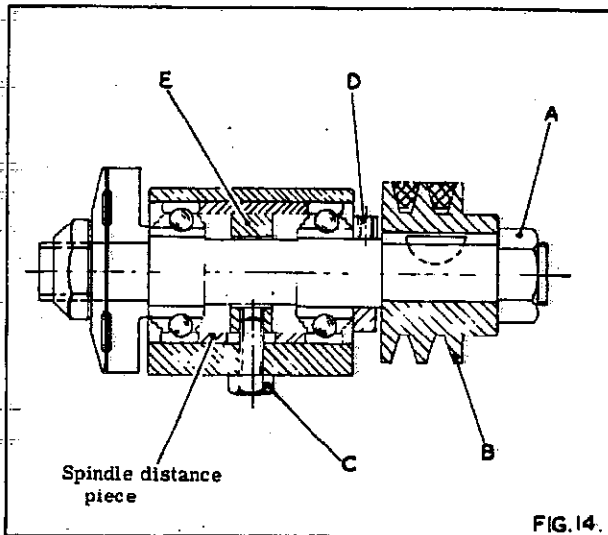

FIG. 14.
3. Remove the 1" fine thread nut (Right hand thread) "A", in fig 14, remove spindle pulley "B", which is keyed to the spindle.
The bearings should now be replaced as the arrangement in fig 14. Care should be taken not to pre-load the bearings: i.e. the spindle distance piece should be just free between the two bearings.
1. Loosen the hexagon head adjuster bolt "C" in fig 14, and tap spindle as required taking care not to damage the threads on the spindle end. Place a steel rule along both sides of riving knife to check whether the saw is central.